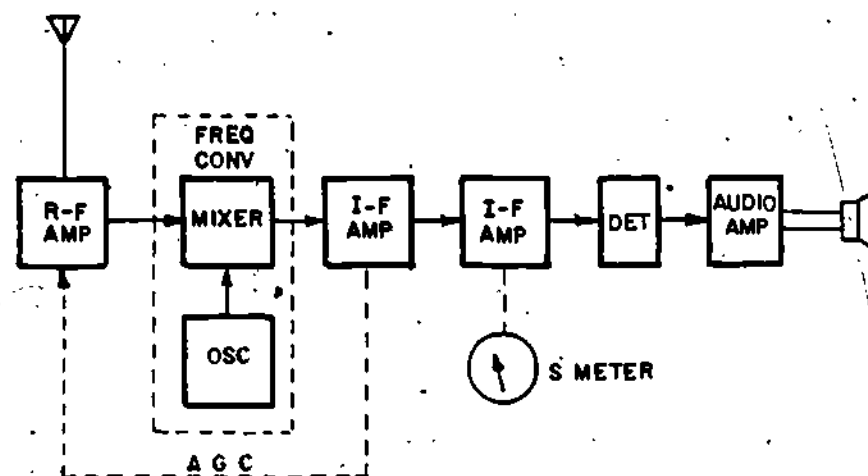

Figure 24
25. You will be working with the NIDA trainer as part of the job program activity for this lesson. You will need to use the built-in meter on the trainer. Figure 24 shows the meter location on the block diagram of the NIDA trainer.
As the IF signal amplitude increases, the pointer on the "S" meter in Figure 24 will show movement across the scale.